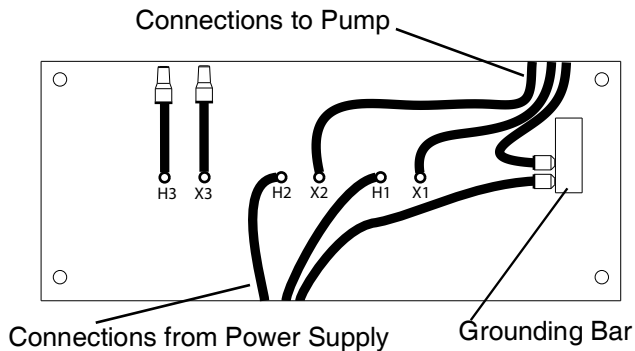

FIG. 9: Transformer Wiring Connections
5. Refer to **Figure 9** on page 12 and connect the wires from the power cord to the wires marked H1 and H2 inside the transformer.
6. Connect the power cord ground wire to the grounding bar inside the transformer as shown in **Figure 9** on page 12.
NOTE: The other wires shown in **Figure 9** (H3, X3) are connected at the factory and are not required for connecting the transformer to the pump.